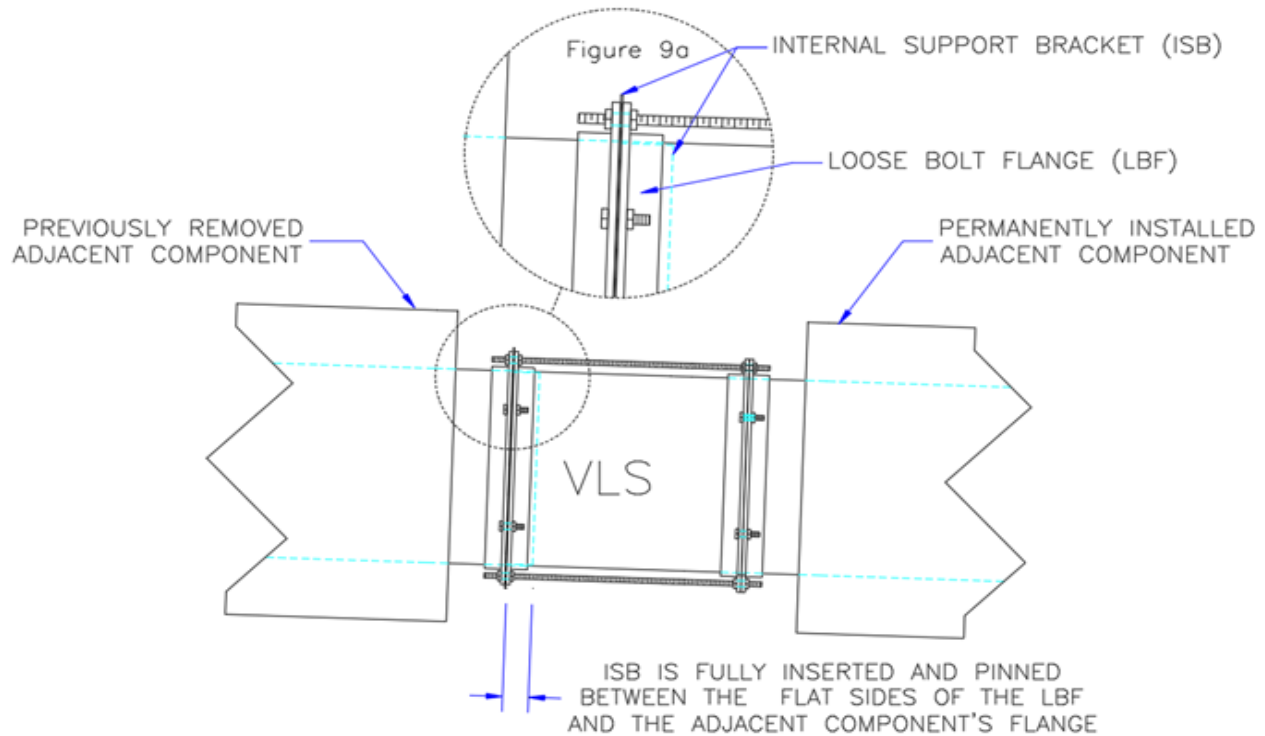

Figure 9: Reinstall the previously removed adjacent component.
16. Reinstall the previously removed adjacent component by ensuring the threaded rods are going through the correct holes and tightening two more nuts to the loose end of the threaded rods (See figure 9a). Make sure the ISB is fully inserted in the VLS, and the previously removed component is tight up against the ISB. (See figure 9)